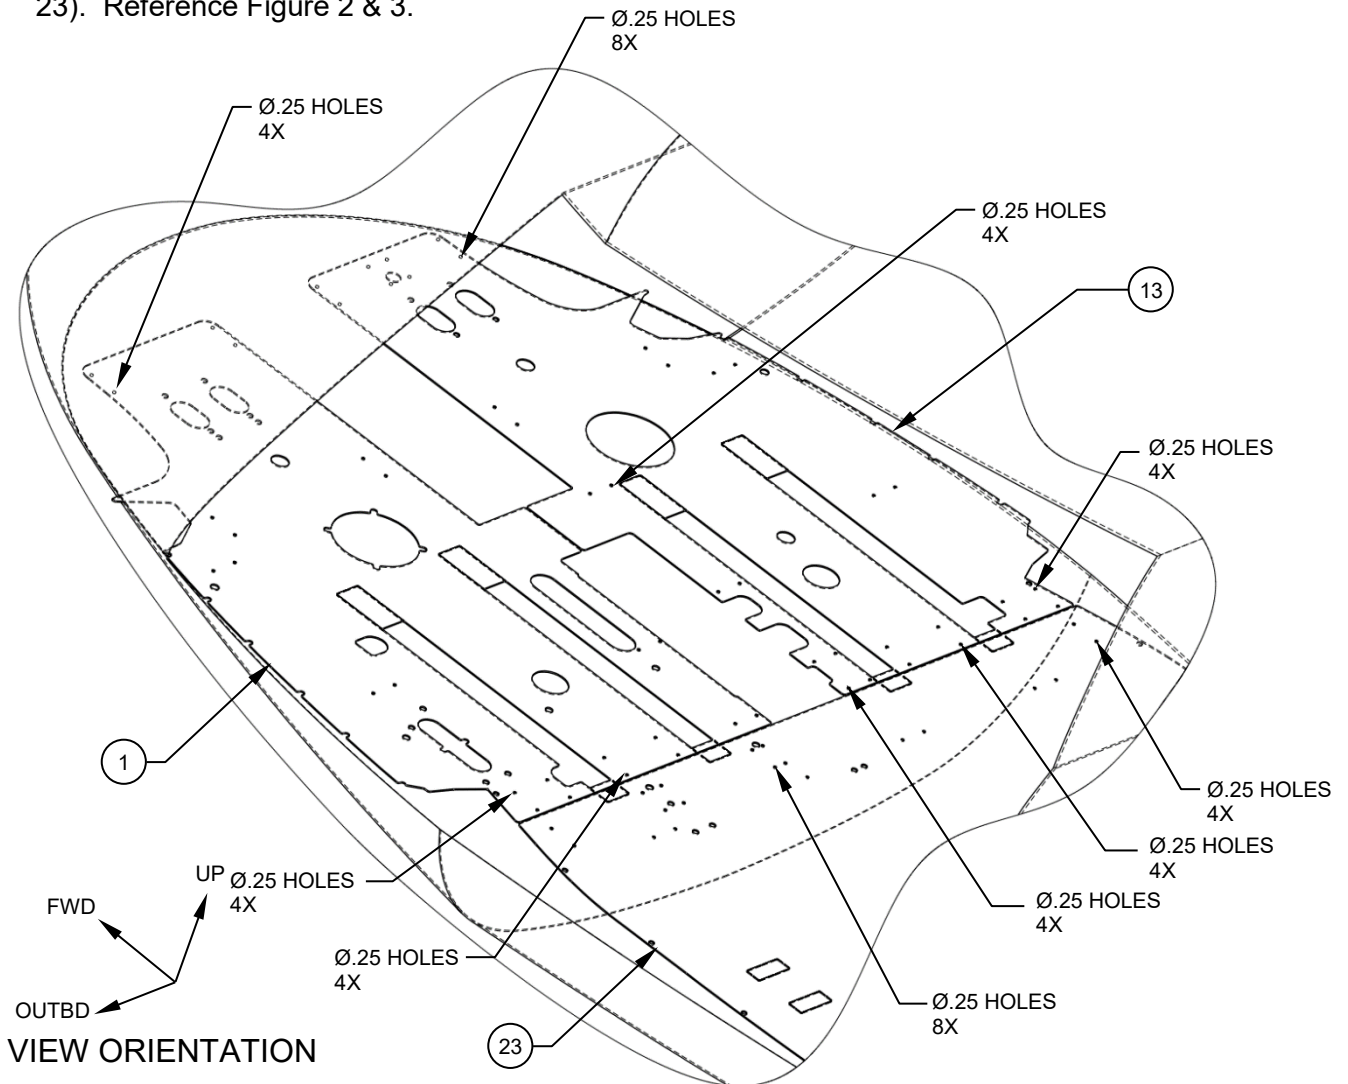

Figure 2
2. Pre-fit the FWD LHS Sliding Door Floor Protection, Assy (Item 1), FWD RHS Sliding Door Floor Protection, Assy (Item 13), & AFT LHS RHS Sliding Door Floor Protection, Assy (Item 23) by lining up the outboard edge of the panel, assy with the existing floor panel edge. Reference Figure 2.
3. With the panel lined up use the pre-cut Ø.25 holes and a felt pen to mark out the locations for the Velcro, Details (Items 9, 10, 11, 12, 20, 21, 22, 29, & 30) and remove the panels (Items 1, 13, & 23). Reference Figure 2 & 3.
7. Re-install the FWD LHS Sliding Door Floor Protection, Assy (Item 1), FWD RHS Sliding Door Floor Protection, Assy (Item 13), & AFT LHS RHS Sliding Door Floor Protection, Assy (Item 23) onto Velcro strips. Reference Figures 2 & 3.